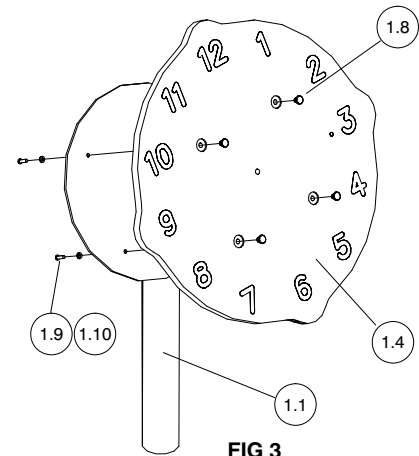

FIG 3
- ii) Attach the lower table (1.4) top to the support post (1.1) using 4-off M6 Torx bolts (1.9), washers (1.10) and tee nuts (1.8). (Figs 3 & 4).